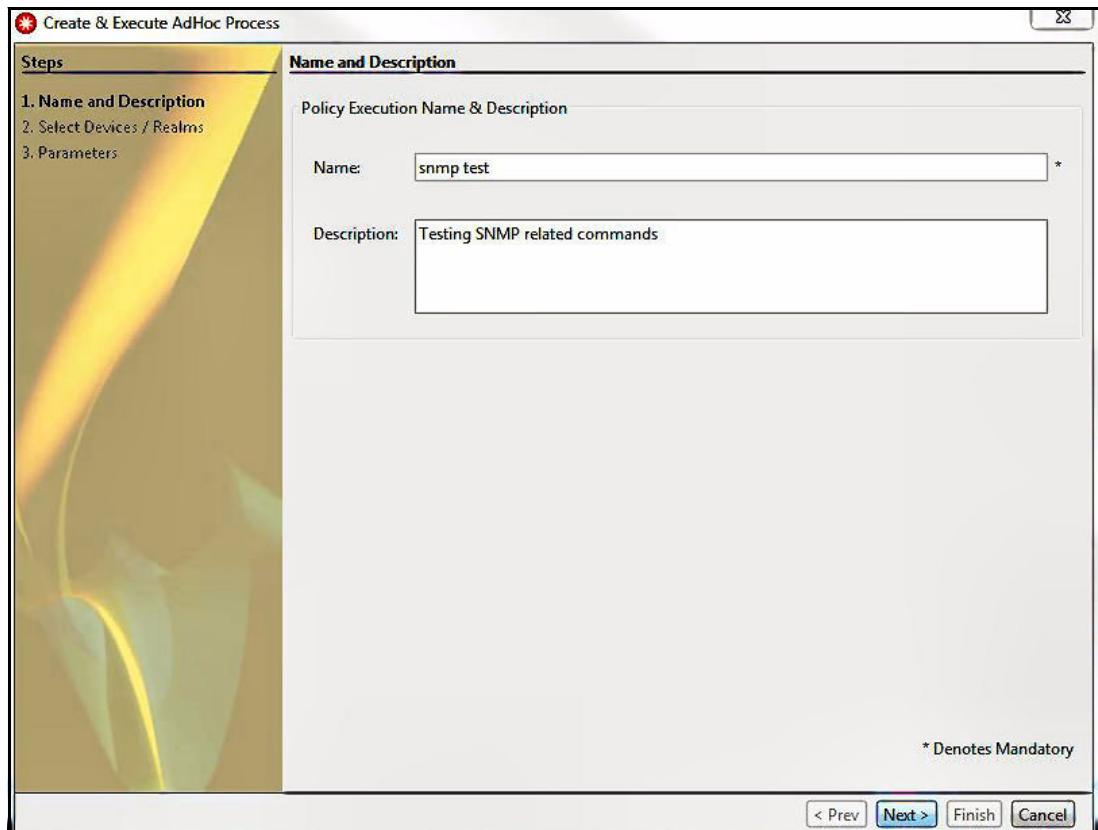

Figure 4-16 Execution details
1. Click the **Execution tab** at the top and select the SNMP-related policy that was created. Click the **Execute** button. You can enter the details for the Name and Description on the next pane and click **Next** when finished, as shown in Figure 4-16.